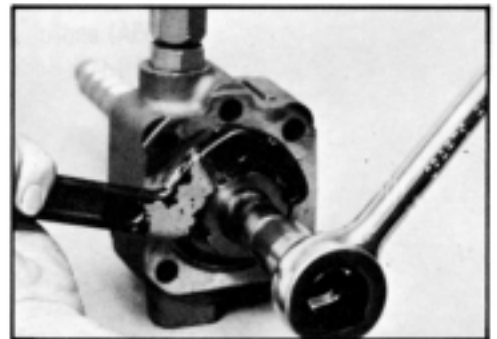

Figure 77
30. Use a breaker bar and the appropriate 3/4 or 11/16 inch 12 point socket on the serrations to hold worm shaft (23) from rotating or clamp worm shaft carefully in a soft jawed vise. Turn off the bearing lock nut (9) from the worm shaft with a hook type spanner wrench or self gripping (groove joint) pliers. SEE FIGURE 77.